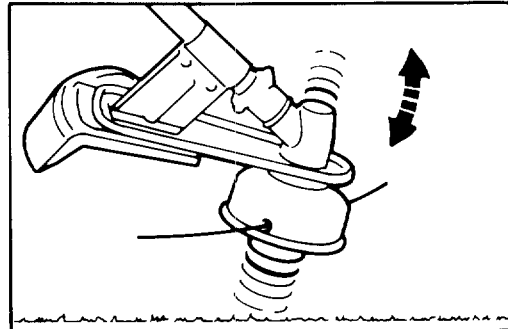

Figure 9
LENGTHENING CUTTING LINE (Fig. 9)
1. To lengthen line, firmly tap spool on the ground with the engine running at half cutting RPM (Fig. 9). The line will be fed from the spool and cut off to the proper length by the cutting knife attached to the shield.